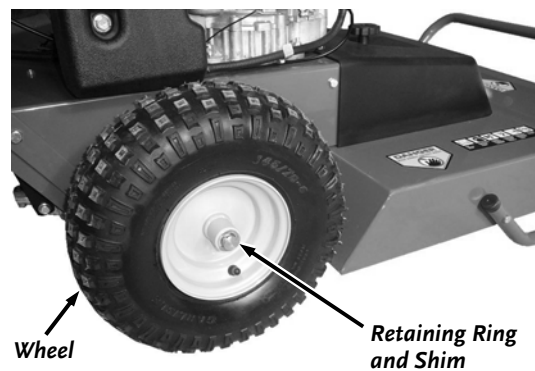

Figure 16
3. Remove the Shim and slide the Wheel off the Axle (**Figure 16**).